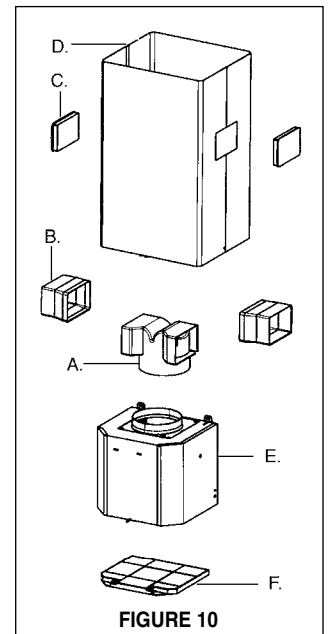
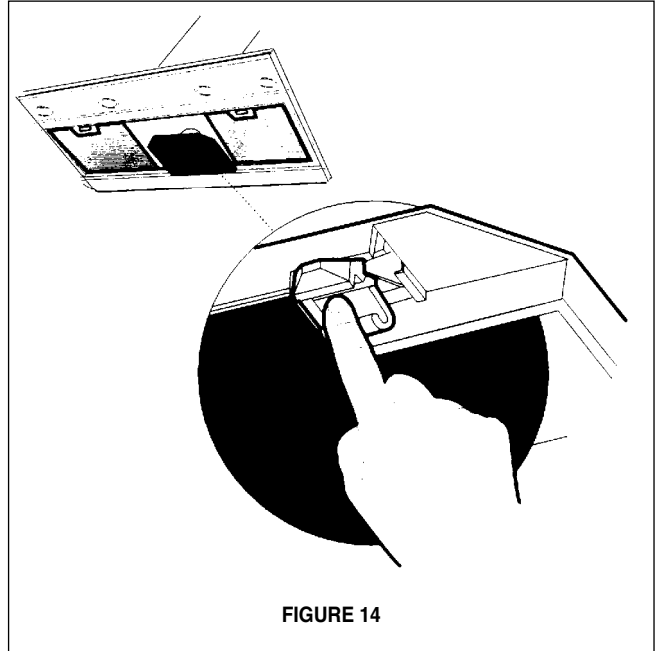

FIGURE 10
FIGURE 14
Ductless installations require a **Ductless Conversion Kit** whose components are pictured in FIGURE 10. Do not use the DAMPER (N in FIGURE 1) for ductless installations. The LOWER CHIMNEY COVER (B in FIGURE 1) should be discarded and replaced by the new one with holes from the **Ductless Conversion Kit** (D in FIGURE 10).
As indicated in FIGURE 10, place the DUCTLESS DIVERTER (A) over the exhaust opening of the EASY CUBE (E). Fit the DUCTLESS DIVERTER EXTENSIONS HORIZONTAL (B) into the DIVERTER (A).
For ductless installations, line up the DUCTLESS DIVERTER EXTENSIONS HORIZONTAL (B in FIGURE 10) with the holes in the LOWER CHIMNEY COVER (D in FIGURE 10) and snap in the VENT GRIDS (C in FIGURE 10).
For ductless installations, install the CHARCOAL FILTER (F in FIGURE 10) behind the center grease filter opening by inserting and locking into place. See FIGURE 14